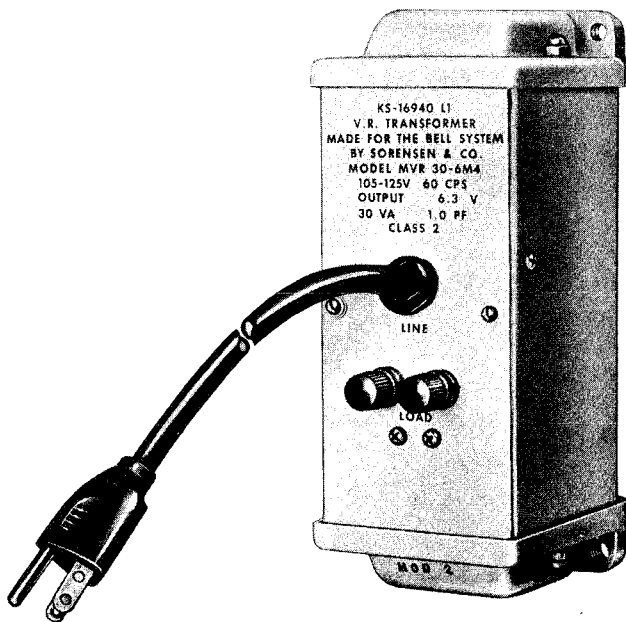

Fig. 9—KS-16940, List 1 V.R. Transformer
9.01 The KS-16940, List 1 V.R. transformer (Fig. 9) is primarily for use as centralized dial light power source to provide regulated power for dial lights and night lights on telephones. It will power 30 dial light telephone sets. This transformer is self-protecting. See Table B for maximum lengths of wiring.